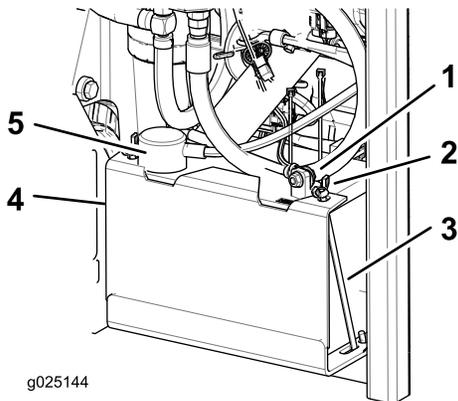

Figure 40
3. Disconnect the negative battery cable (black) from the negative (-)(black) battery terminal (Figure 40).
4. Slide the red terminal boot off the positive (red) battery terminal and remove the positive (+)(red) battery cable (Figure 40).
5. Remove the wing nuts securing the J-hooks (Figure 40).
6. Remove the clamp (Figure 40).
1. Position the battery in the tray with the terminal posts opposite from the hydraulic tank (Figure 40).
4. Secure the cables with 2 bolts, 2 washers, and 2 locknuts (Figure 40).
6. Install the clamp and secure it with the wing nuts and J-hooks (Figure 40).